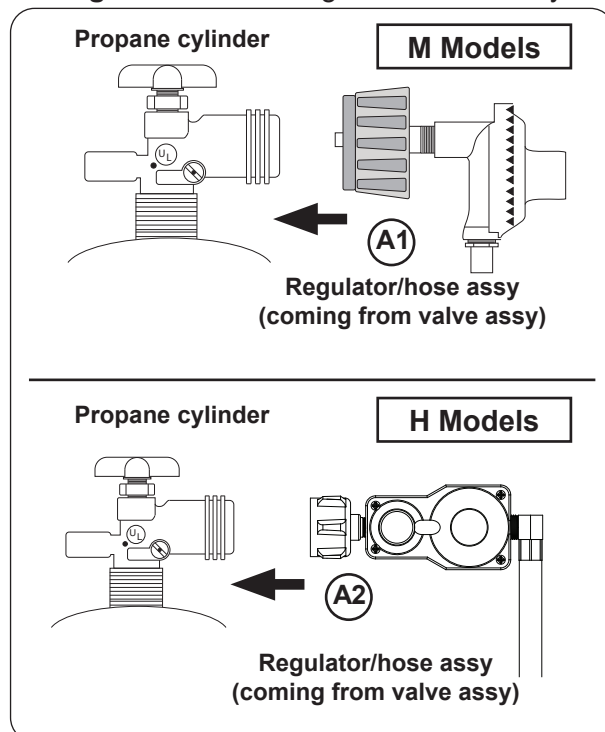

Fig. 25-2 Connecting hose assy to L.P. cylinder
2. Attach the regulator end of the hose assembly to a propane cylinder (not included) and tighten (see Fig. 25-2, A1 or A2).